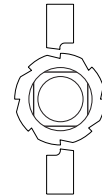

Figure 8: Pawl/ratchet orientation
5. Reinstall the pawls. (They will usually go in easier from the inside.) The groove on the outside end of the pawl must align with the spring retaining groove in the driveshaft, but take care that they are positioned to yield the relationship to the ratchet illustrated in **Figure 8**.